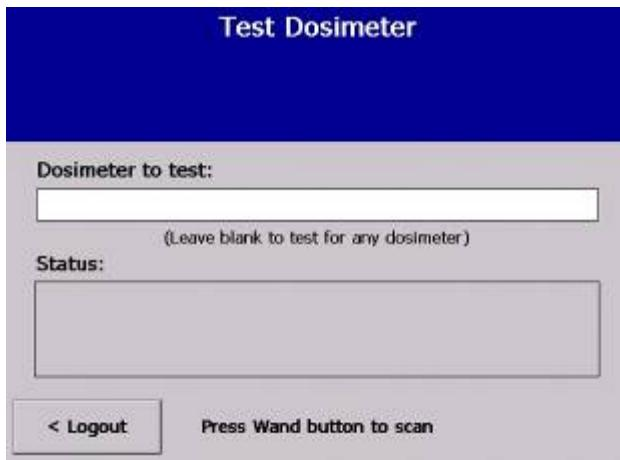

Figure 36 — Test Dosimeter
- **To read a dosimeter without knowing its serial number,** leave the **Dosimeter to test** field blank (Figure 36 — Test Dosimeter), then hold the dosimeter near the Reader Wand and press the button on the Reader Wand. The Reader searches for any available dosimeters within the read range.